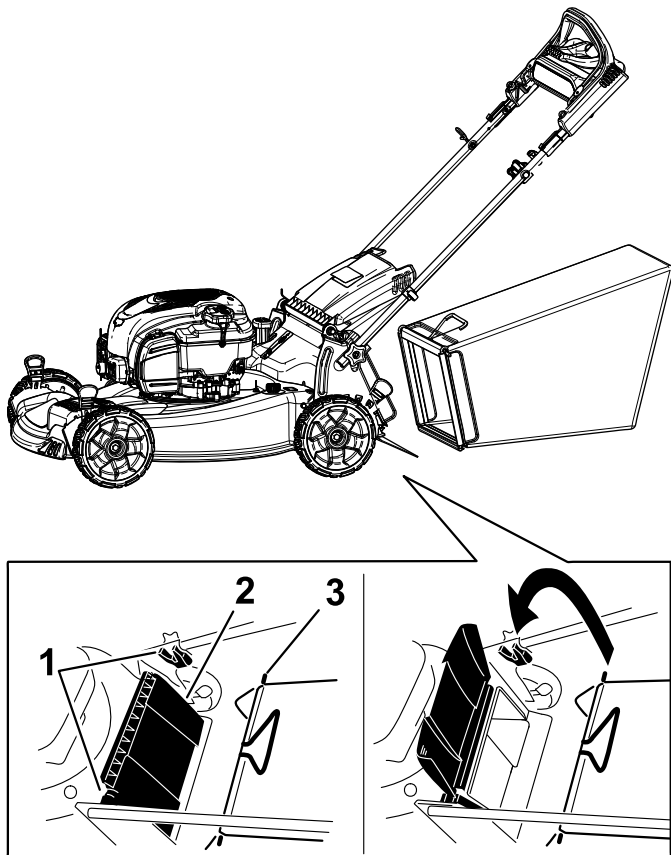

Figure 17
1. Raise and hold up the rear deflector (Figure 17).
2. Install the grass bag, ensuring that the pins on the bag rest in the notches on the handle (Figure 17).